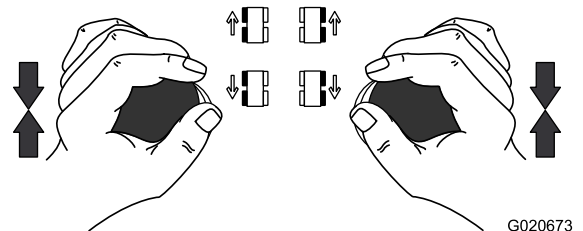

Figure 38
- To **stop** the movement or turning of the machine, return the levers to the neutral (default) position (Figure 38).